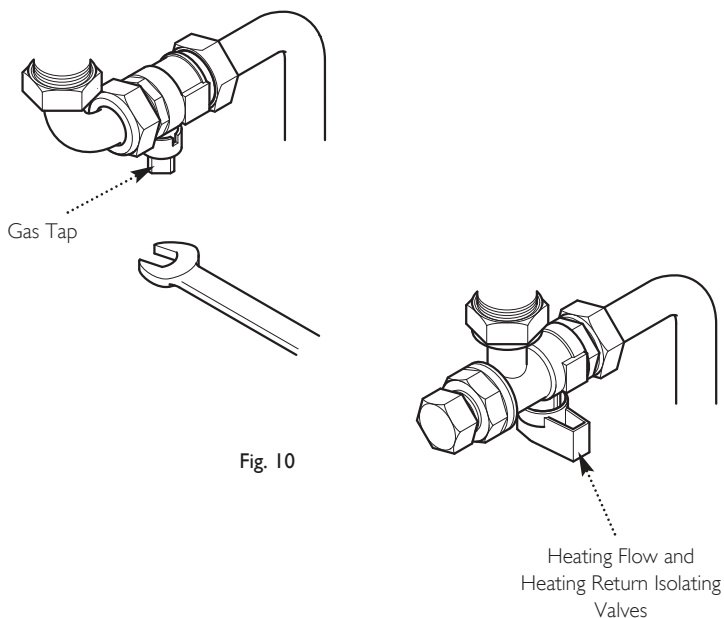

Fig. 10
1. Using a suitable open ended spanner, turn the square nut on the gas tap through 90° (1/4 turn) to isolate the gas supply at the boiler (Fig. 10).
2. The water isolating valves are positioned under the boiler and can be closed by turning their taps to the right towards the wall (Fig. 10).